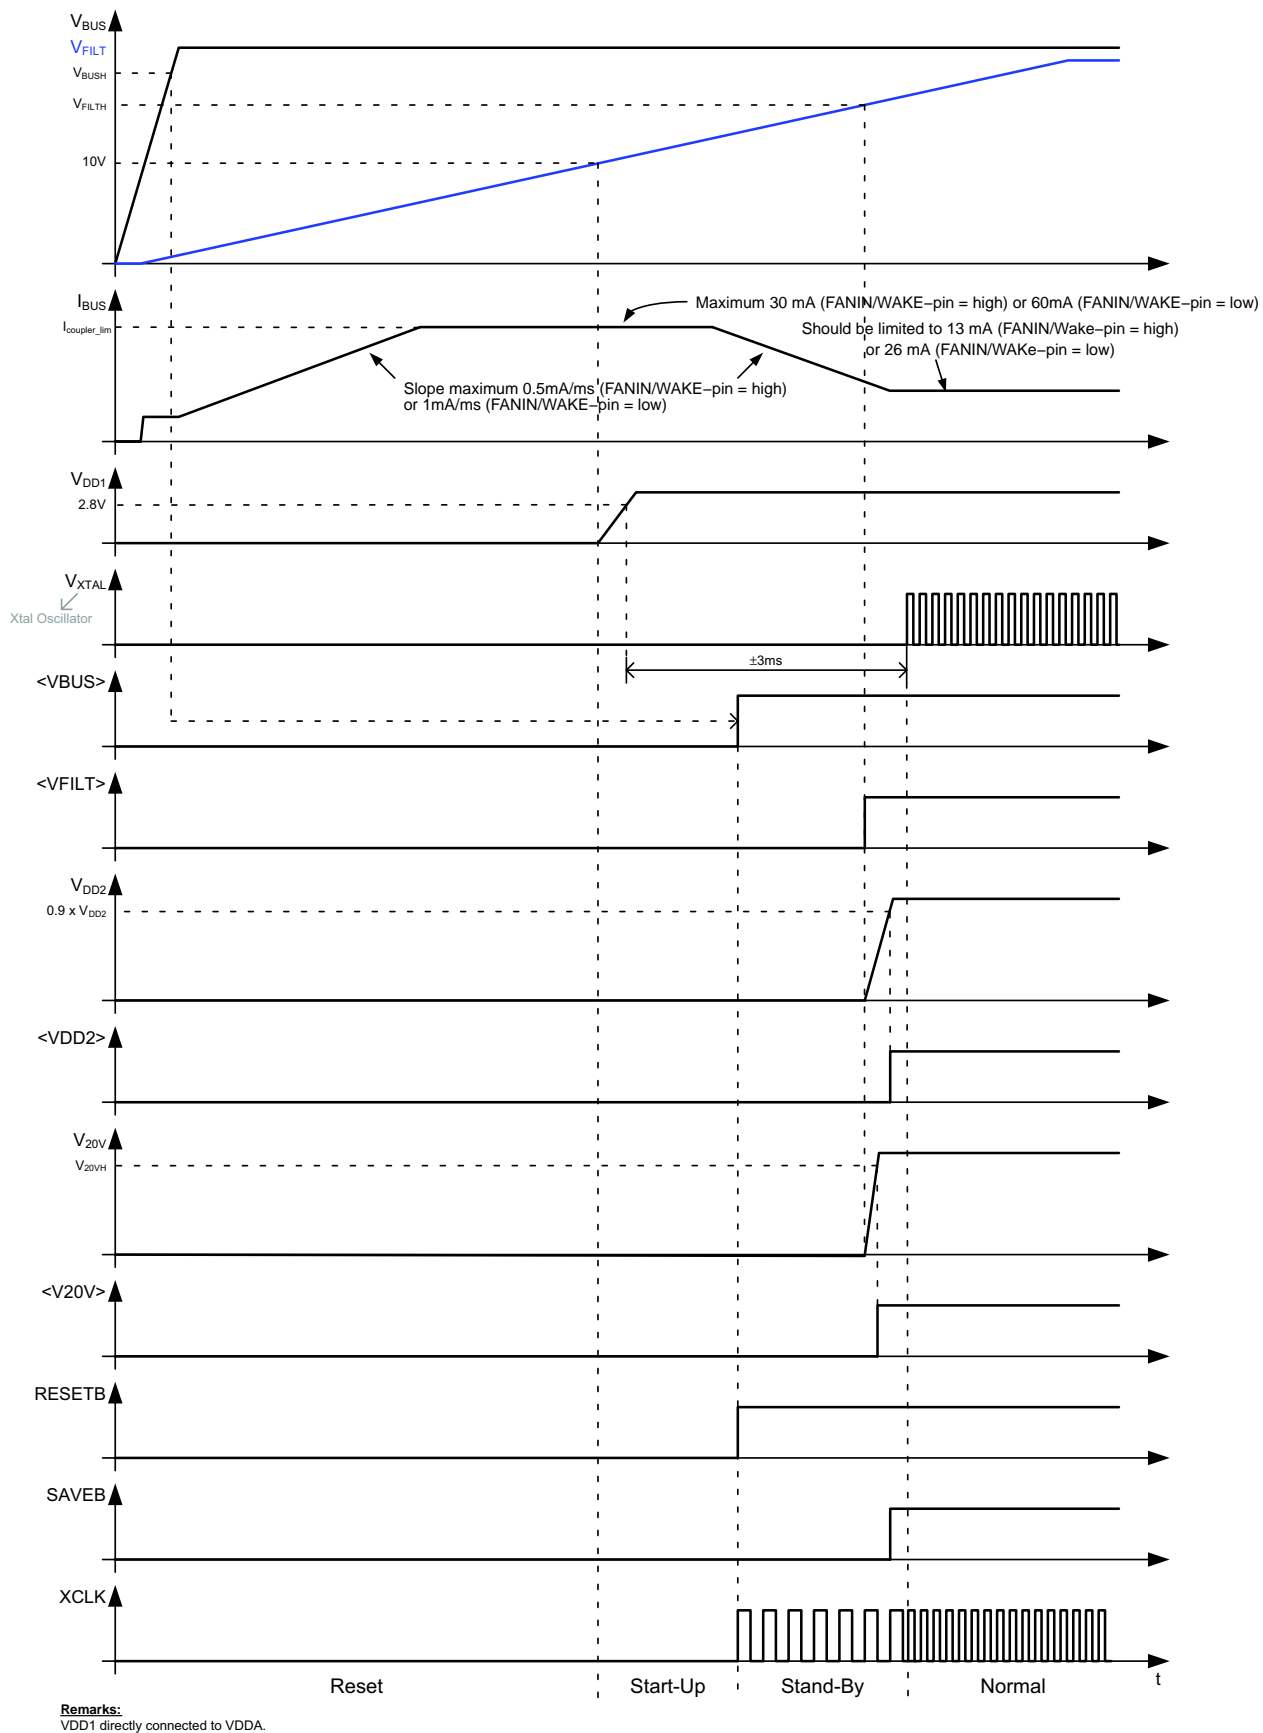

Figure 21. Start-Up Behavior
After power–up, a 4 MHz (Note 3) clock signal will be present on the XCLK–pin during Stand–By. When Normal State is entered, a 8 or 16 MHz clock signal will be present on the XCLK–pin. See also Figure 21.
Figure 21 gives a detailed view on the start-up behavior of NCN5120. After applying the bus voltage, the filter capacitor starts to charge. During this Reset State, the current drawn from the bus is limited to $I_{coupler}$ (for details see the KNX Standards). Once the voltage on the filter capacitor reaches 10 V (typ.), the fixed DC-DC converter (powering VDDA) will be enabled and the device enters the Start-Up State. When V_{DD1} gets above 2.8 V (typ.), the OTP memory is read out to trim some analog parameters (OTP memory is not accessible by the user). When done, the Stand-By State is entered and the RESETB-pin is made high. If at this moment V_{BUS} is above V_{BUSH} , the VBUS-bit will be set (<VBUS>, see System Status Service, p34). After approx. 2 ms the Xtal oscillator will start. When V_{FILT} is above V_{FILTH} DC2 and V20V will be started. When the Xtal oscillator has started, no Thermal Warning (TW) or Thermal Shutdown (TSD) was detected and the VBUS-, VFILT-, VDD2- and V20V-bits are set, the Normal State will be entered and SAVEB-pin will go high.